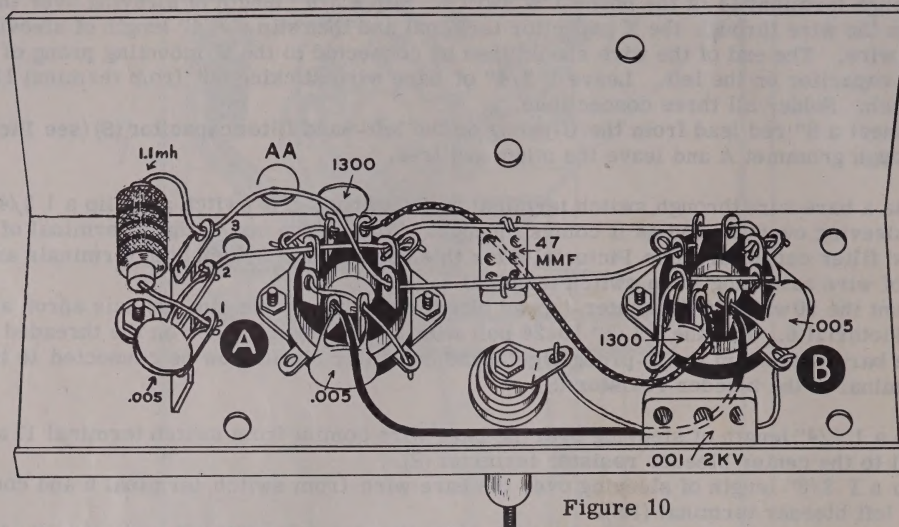

Figure 10
- (✓) Identify the 6146 sub-chassis from Figure 10.
- (✓) Mount two ceramic octal saddle-type sockets on the sub-chassis with the keyways facing away from each other. Use 1/4" 6-32 screws, lockwashers and nuts. See Figure 10.
- (✓) Mount a feed-through insulator in the 5/16" hole. Arrange the stud in the insulator so most of it projects through the top. Leave only enough of the stud at the bottom of the insulator to hold a solder lug and two nuts. See Figure 10 and position the insulator body and solder lug as shown.
- (✓) Connect a .005 μ fd disc ceramic capacitor from pin 6 (NS) to pin 7 (NS) of socket A.
- (✓) Connect a .005 μ fd disc ceramic capacitor from pin 1 (NS) to pin 2 (NS) of socket B. Position the capacitor to clear the adjacent ground lug.
- (✓) Connect a 1300 μ fd disc ceramic capacitor from pin 2 (NS) to pin 3 (NS) of socket A.
- (✓) Connect a 1300 μ fd disc ceramic capacitor from pin 3 (NS) to pin 4 (NS) of socket B.
- (✓) Connect a .005 μ fd disc ceramic capacitor from lug 1 (NS) to lug 2 (NS) of the terminal strip.
- (✓) Connect an orange lead from pin 3 of socket A (NS) to pin 3 of socket B (NS). Run the lead close to the chassis.
- (✓) Connect a black lead from pin 7 of socket A (NS) to pin 2 of socket B (S). Run this lead close to the chassis also.
- (✓) Run a heavy bare wire through the following terminals in order (see Figure 10): lug 2 of the strip, pins 1 and 4 of socket A and pins 6, 7 and 8 of socket B. Solder lug 2 of the terminal strip and pins 6 and 7 of socket B.
- (✓) Connect a heavy bare wire from pin 8 of socket B (S) to the adjacent ground lug (S).
- (✓) Connect a heavy bare wire from pin 4 (S) to the adjacent ground lug (S) on socket A.
- (✓) Connect a heavy bare wire from pin 2 (S) to the adjacent ground lug (S) on socket A.
- (✓) Refer to Figure 10 and connect a $47\ \mu\text{f}$ mica capacitor (yellow-violet-black) between the two heavy wires as shown. Keep the leads short and solder both connections.
- (✓) Connect a $.001\ \mu\text{f}$ 2000 volt mica capacitor (brown-black-red) from the #1 ground lug on socket B (S) to the feedthrough insulator solder lug (NS).
- (✓) On the terminal strip, connect a 1.1 mh RF choke from lug 1 (NS) to lug 3 (NS).